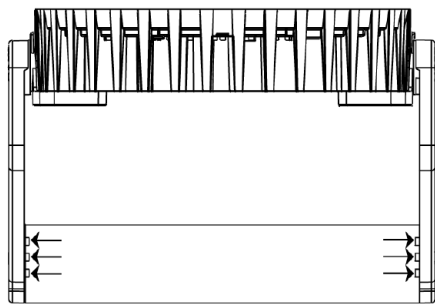

Figure 8
- Once the driver box and guide rails have been removed, use a hex tool to remove the (6) bolts that connect the pre-installed mounting arm to the left and right side arms of the fixture (Figure 8).